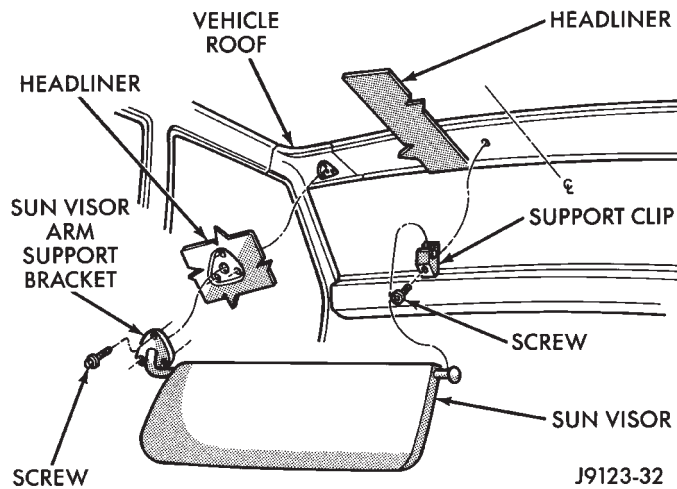
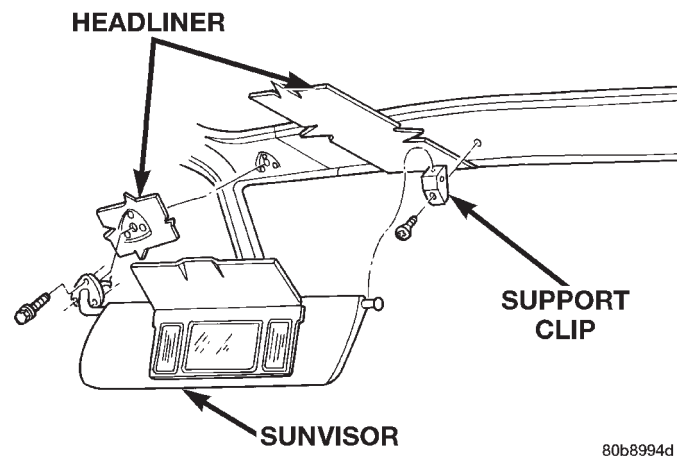

Fig. 82 Sunvisor
Fig. 83 Sunvisor w/Vanity Lamp
(1) Remove the screws that attach the sunvisor arm support bracket to the headliner and the roof panel (Fig. 82) and (Fig. 83).
- (2) Disconnect vanity lamp connector, if equipped.
- (3) Detach the sunvisor from the support clip.
- (4) Remove the sunvisor from the vehicle.
- (5) Remove the retaining screw and support clip.